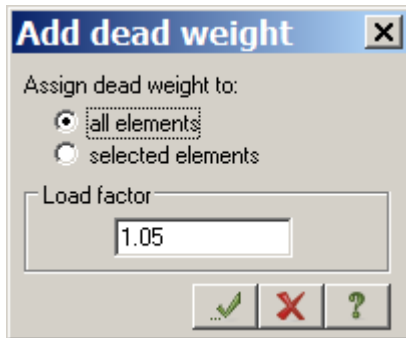

Figure 3.17 Add dead weight dialog box
- ⇒ In the **Add dead weight** dialog box (see Fig.3.17), click **All elements** and specify **Load factor** as equal to **1.05** (as in SRS-SAPR \(Steel Tables\) module the unit weight is specified as normative value, it should be converted to design value).